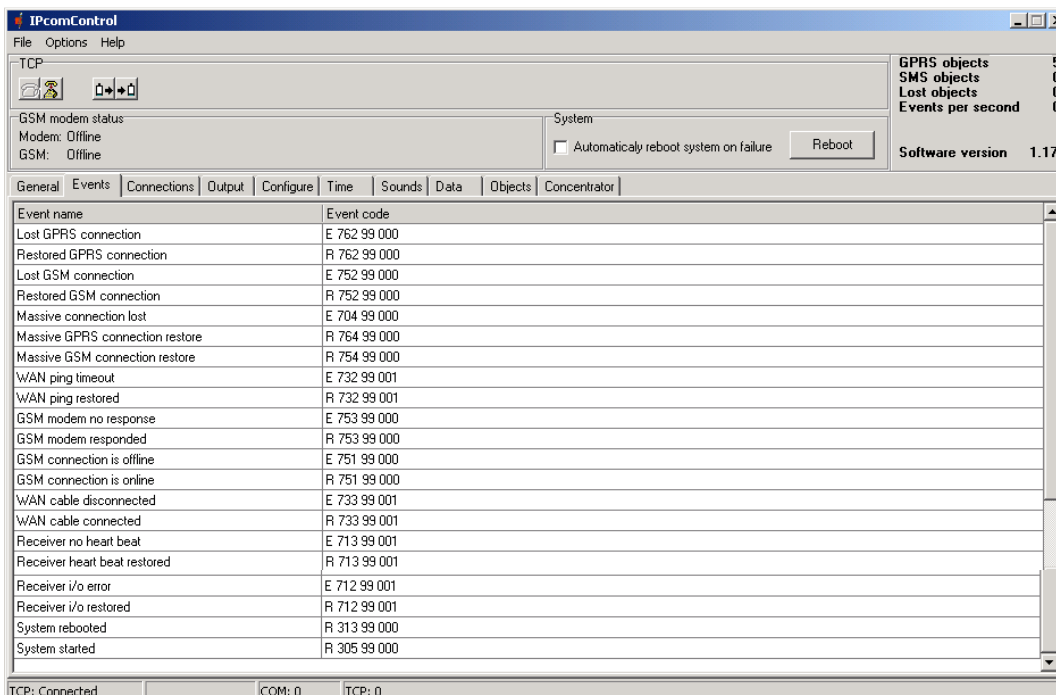

Figure 12.
8.10 In the **Events** tab (Fig. 12) a list of various event descriptions and their message codes is displayed. It is explained in chapter 10.